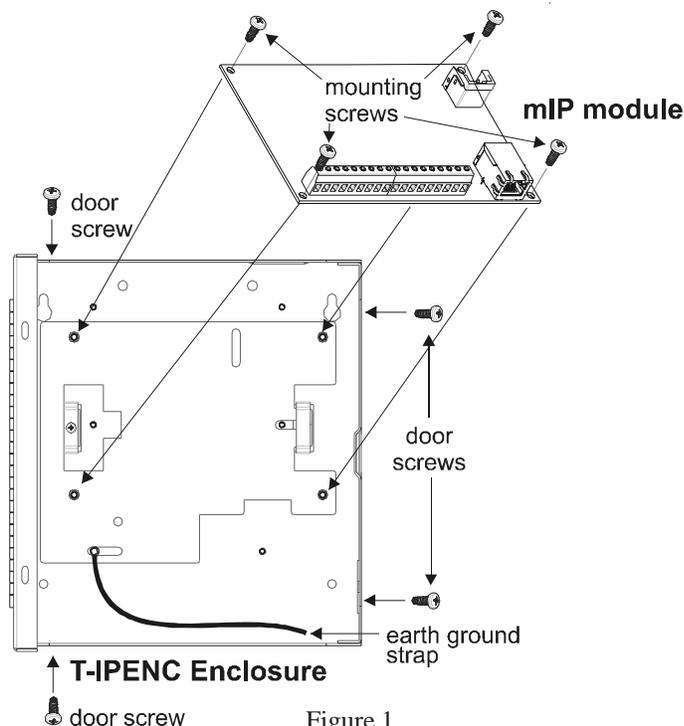

Figure 1
1. Secure mIP Series Module to bracket using the four supplied screws as illustrated in Figure 1.
2. An earth ground strap is provided, with one end attached to the lower left stud protruding through the bracket as illustrated in Figure 1. The other end must be attached to earth ground by the installer.
5. After completing wiring and programming of the mIP Series, close the door and secure it with the four supplied screws in the locations indicated in Figure 1.